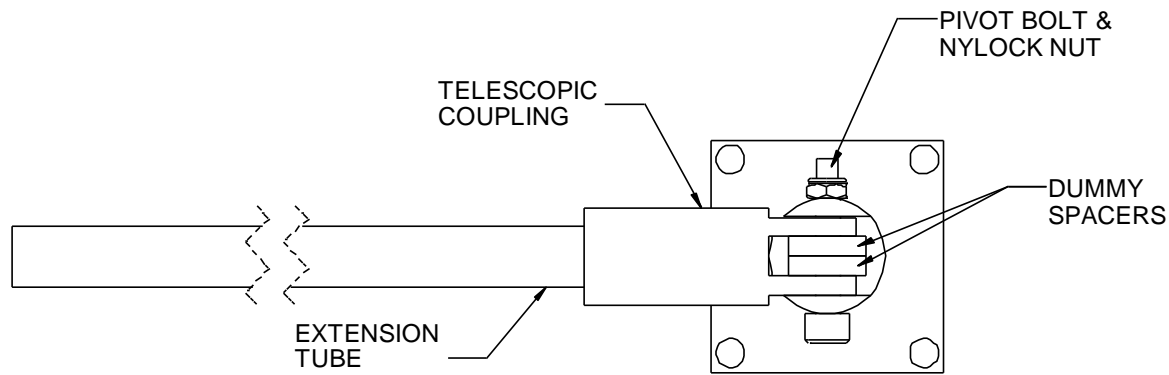

Figure 6: Connecting last set of Anchor Plate and Telescopic Coupling
17. Place two Dummy Spacers on the last set of Anchor Plate. (See figure 6)